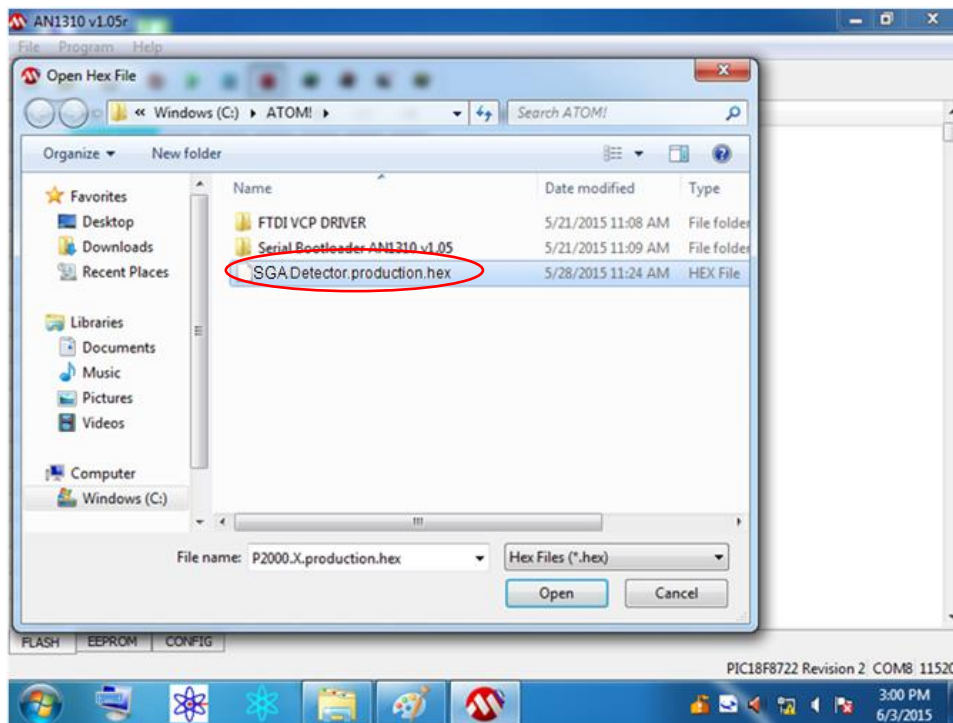

Figure 3.20
7. Select the **SGA-detector.production.hex** file located in **C:\ATOM!** directory and click **Open** (Figure 3.20). *(The detector HEX file is same for both SGA and SLA applications)*